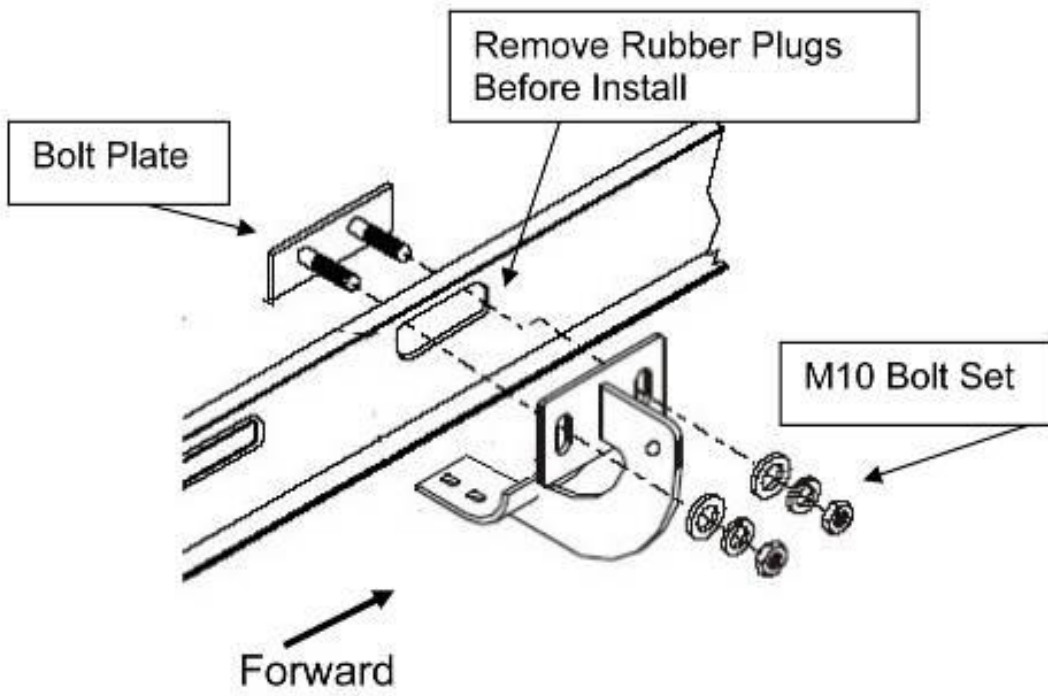

Figure 1. Driver Side – Front Bracket
1. Remove existing plug from underside of truck as shown. Fig. 1. 2.
3. Install driver side front and rear bracket as shown. Fig 1. 2.